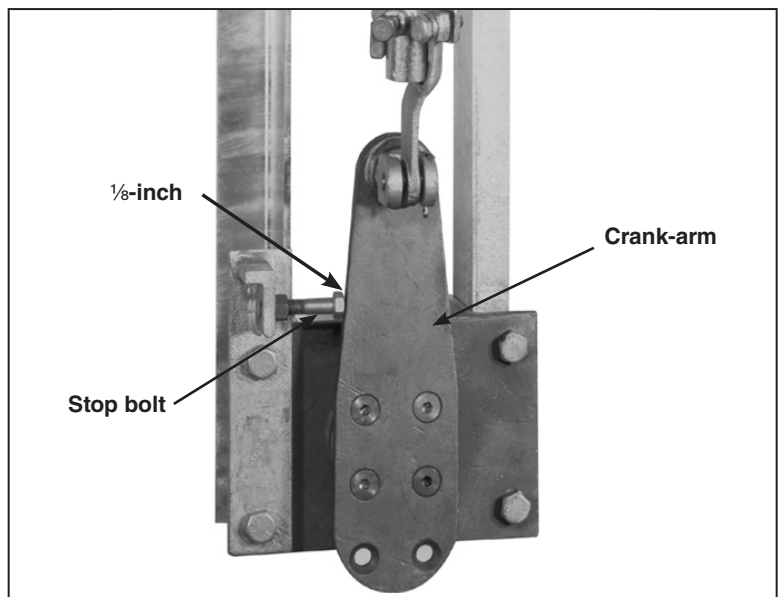

Figure 36. Adjust the outboard bearing crank-arm stop bolt for power operation.
- (f) When an S&C Type AS-1A Switch Operator or an S&C 6801M Automatic Switch Operator is used, verify—with the switch fully closed—there is a clearance of approximately $\frac{1}{8}$ -inch between the outboard bearing crank-arm and its stop bolt. See Figure 36. (This clearance is essential to prevent bending of the stop bolt during power operation.) Adjust the stop bolt to provide this clearance *after* any other adjustments are made to achieve full closure, stroke, or toggle action. Be sure to retighten the lock-nut when adjustment is complete.